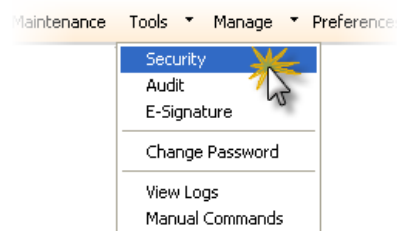

Figure 34 Security – disable or enable
2. Click **Disable** or **Enable** (Figure 34 on page 198). Note the following:
1. In the Security screen (Figure 34 on page 198), click **Messaging Notifications** to display the Setup Notifications dialog box.